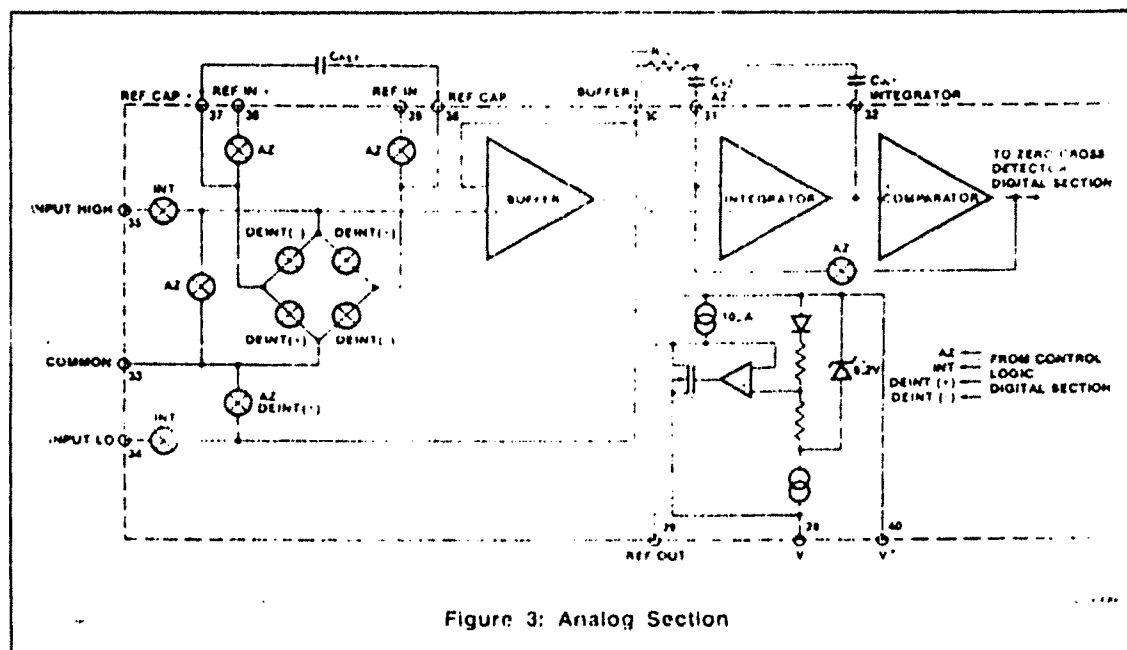
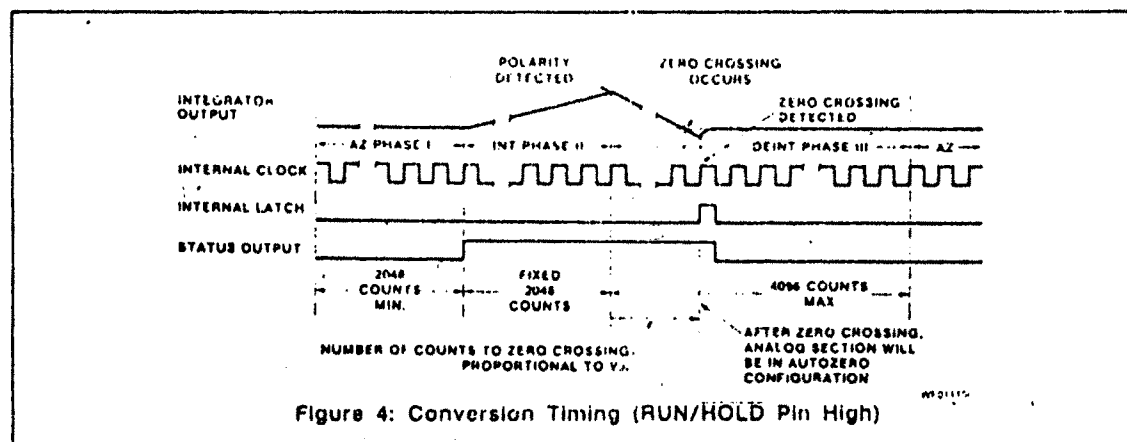

Figure 3: Analog Section
Figure 4: Conversion Timing (RUN/HOLD Pin High)
Figure 3 shows the equivalent circuit of the Analog Section of the ICL7108. When the RUN/HOLD input is left open or connected to V^+ , the circuit will perform conversions at a rate determined by the clock frequency (8192 clock periods per cycle). Each measurement cycle is divided into three phases as shown in Figure 4. They are (1) Auto-Zero (AZ), (2) Signal Integrator (INT) and (3) De-integrator (DE).
During a conversion cycle, the STATUS output goes high at the beginning of Signal Integrate (Phase II), and goes low one-half clock period after new data from the conversion has been stored in the output latches. See Figure 4 for details of this timing. This signal may be used as a "data valid" flag (data never changes while STATUS is low) to drive interrupts, or for monitoring the status of the converter.
When the RUN/HOLD input is high, or left open, the circuit will continuously perform conversion cycles, updating the output latches after zero crossing during the Deintegrate (Phase III) portion of the conversion cycle (See Figure 4). In this mode of operation, the conversion cycle will be performed in 8192 clock periods, regardless of the resulting value.